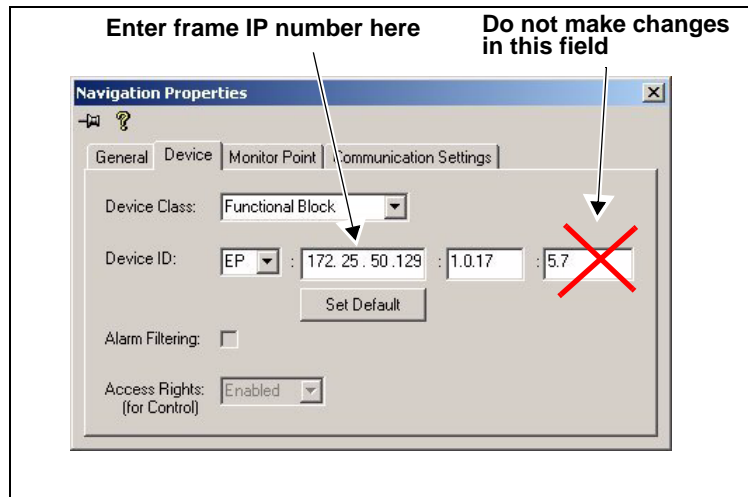

Figure 2-4. Navigation Properties Box
- On the **Device** tab of the Navigation Properties box, enter the IP address of the frame that holds the module. (See Figure 2-4.)